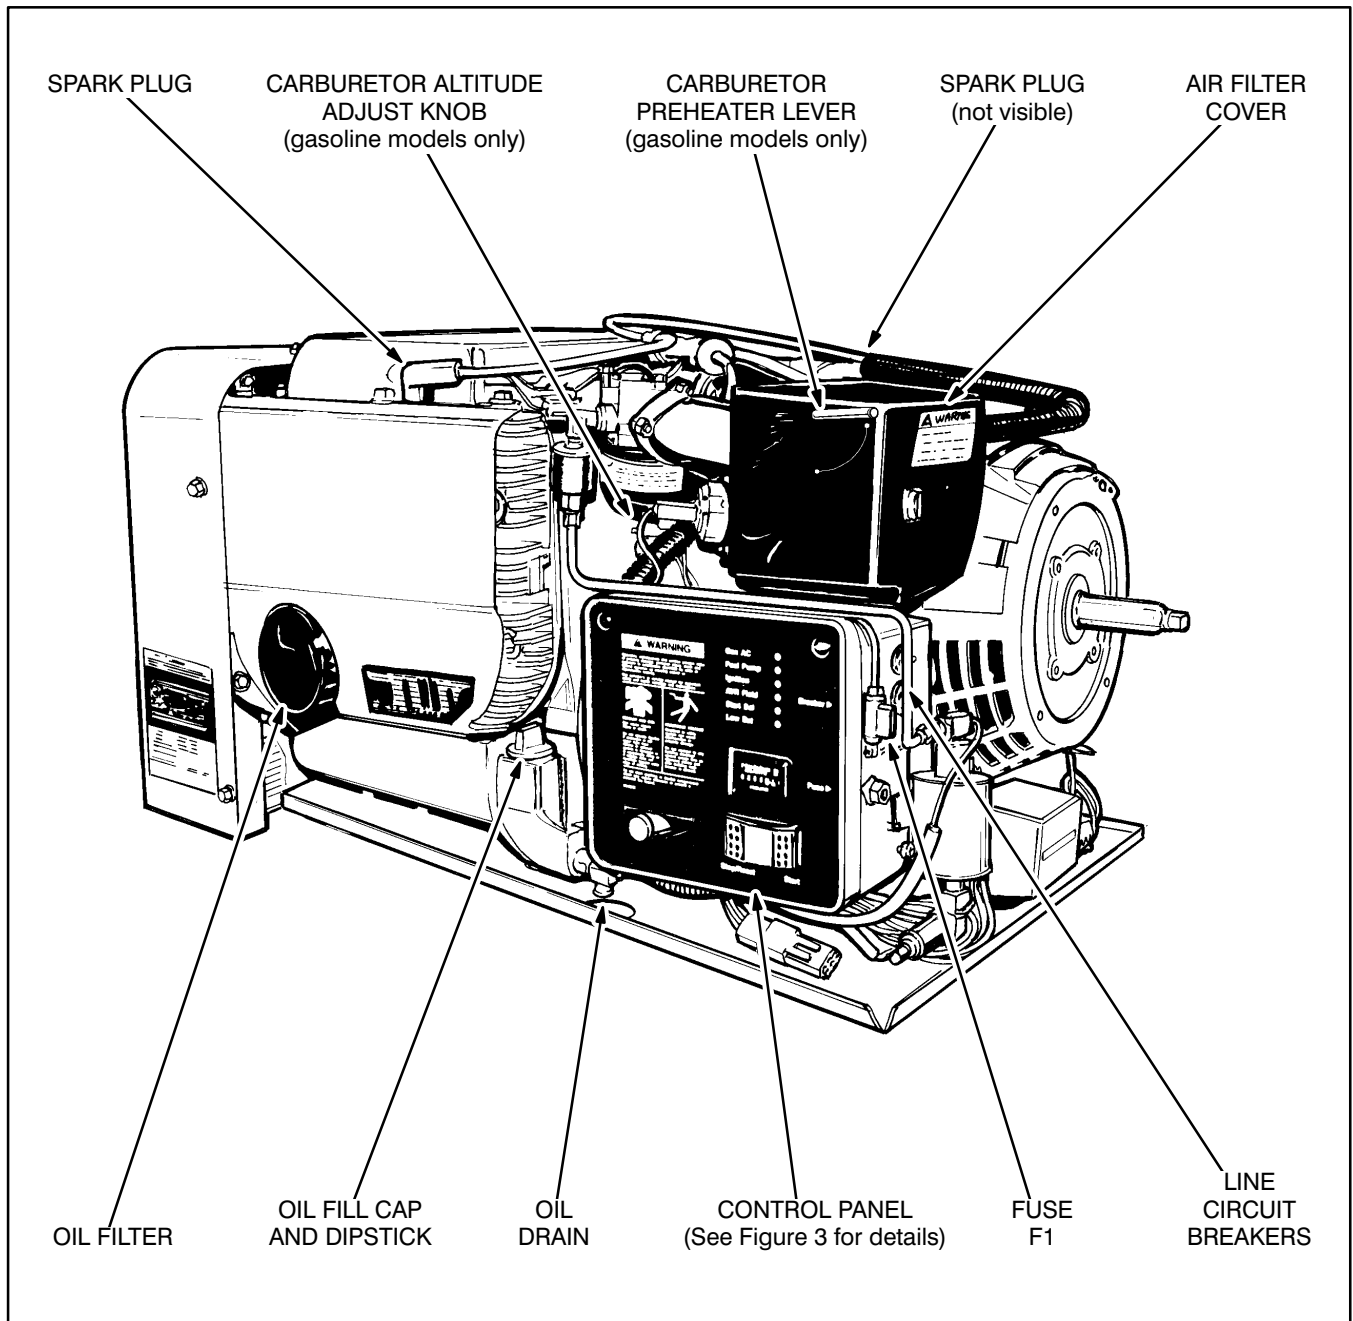

FIGURE 2. COMPONENT LOCATIONS
*Maintenance*) are located as shown in Figure 2. The genset itself is usually located behind a door in a compartment somewhere around the perimeter of the vehicle.